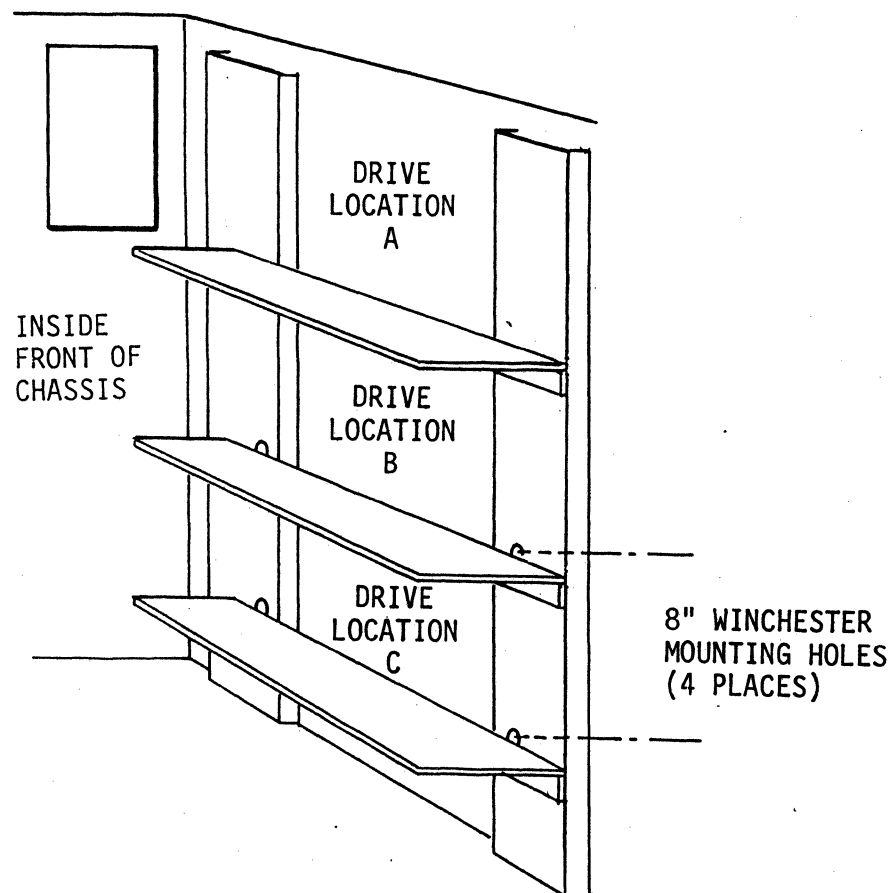

FIGURE 2-1: STORAGE DEVICE MOUNTING LOCATIONS
The SA-H115 chassis has several combinations of storage device configurations. This section describes installation of the devices listed in Table 1-2. Other combinations can be accommodated, and this section is intended to be a guide for general drive installation. If drives other than those listed in Table 1-2 are used, consult the factory. The storage devices are mounted on drive mounting brackets and installed over the ledges in locations A, B, and C as shown in Figure 2-1. The 8" winchester is mounted directly on the chassis and the B and C ledges shown below are not included for this version.
3. Secure the drive directly to the side of the chassis in drive locations B and C (Figure 2-1) using 10-32 x 3/8 hardware. Insert the red/white twisted pair cable to the fan. Cable the drive per manufacturer's specifications.
3. Slide the mounting bracket under the front flange in drive location B (Figure 2-1) and secure the bracket at the rear with thumbscrews.
4. If a second 5 1/4" winchester drive is used, slide the 2nd mounting bracket under the flange in drive location C (Figure 2-1) and secure the bracket at the rear with thumbscrews.